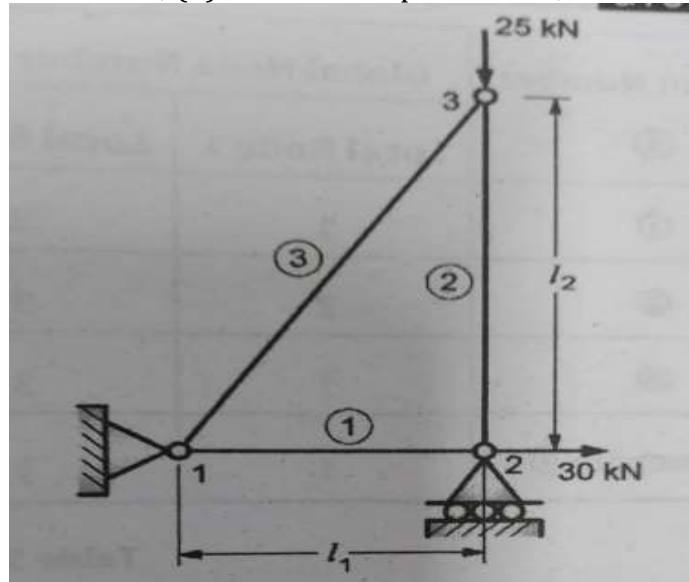

Figure-3
- (c)** A three bar truss is subjected to loading, as shown in figure-3. The modulus of elasticity for bar material is 200 GPa. The cross section area of each bar used for truss is 50 mm. If the length of the horizontal and vertical bars are 750 mm and 1000 mm respectively. Determine (a) The global stiffness matrix; (b) the nodal displacements; **07**